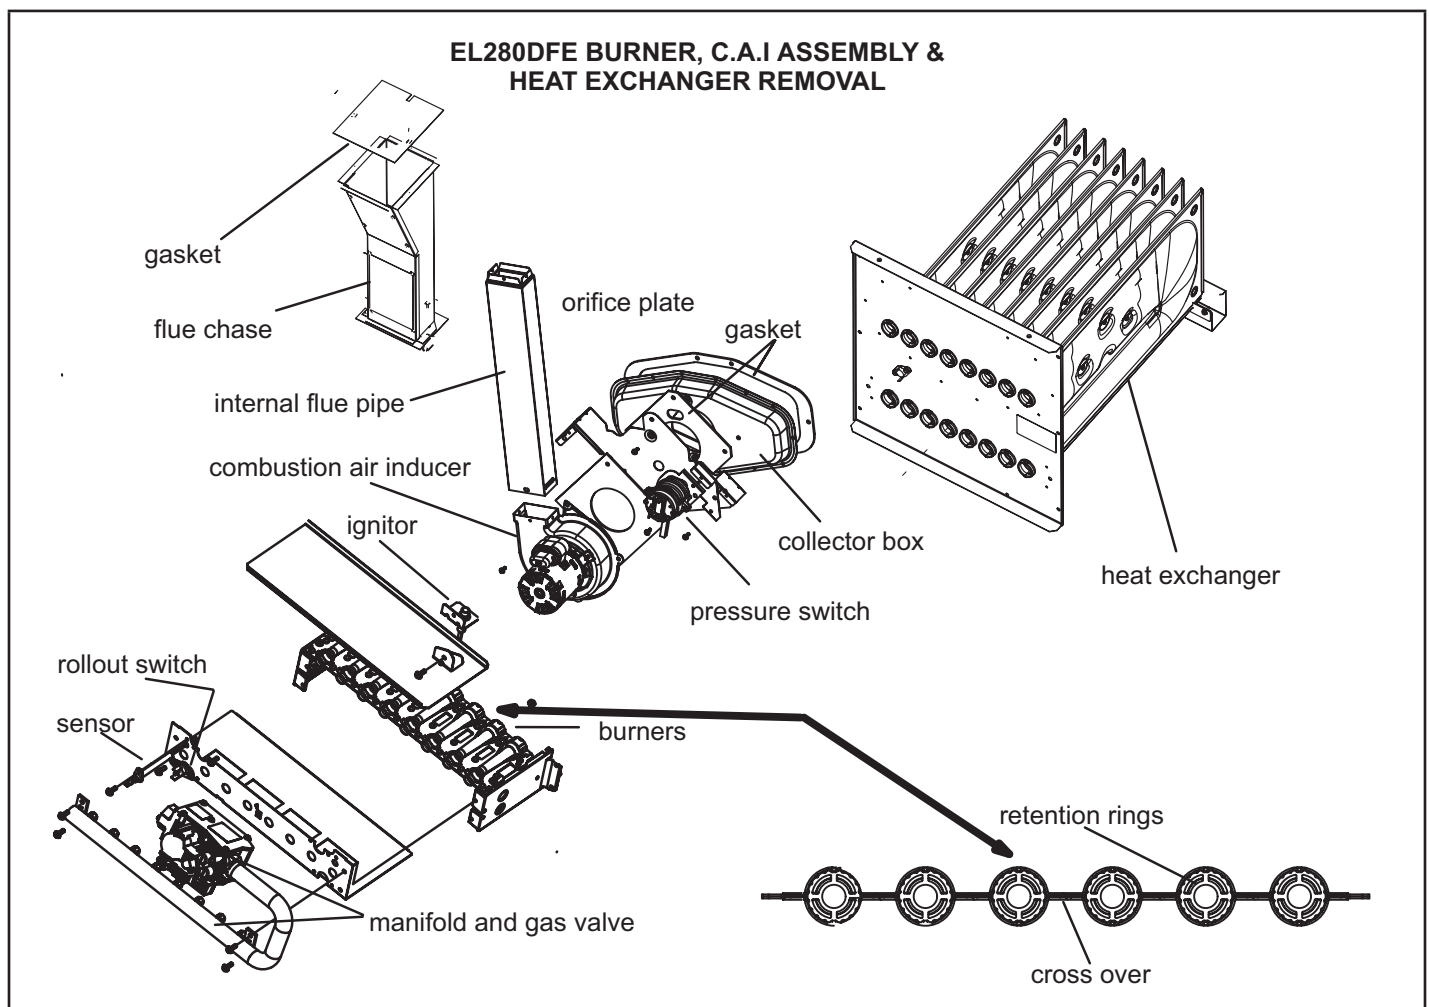

FIGURE 22
- 11-To clean burners, run a vacuum cleaner with a soft brush attachment over the face of burners. Visually inspect inside the burners and crossovers for any blockage caused by foreign matter. Remove any blockage. FIGURE 22 shows burner detail.